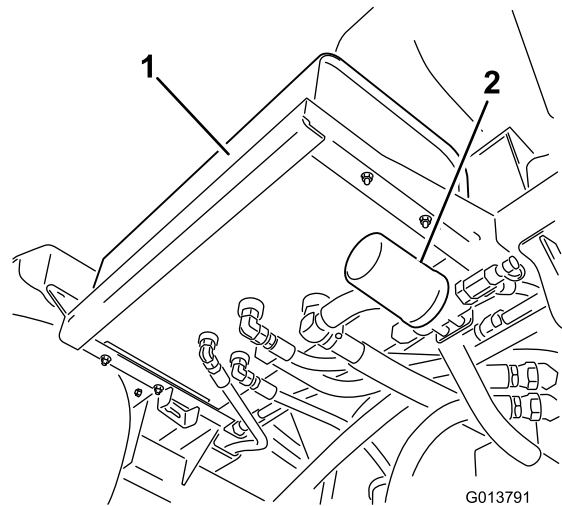
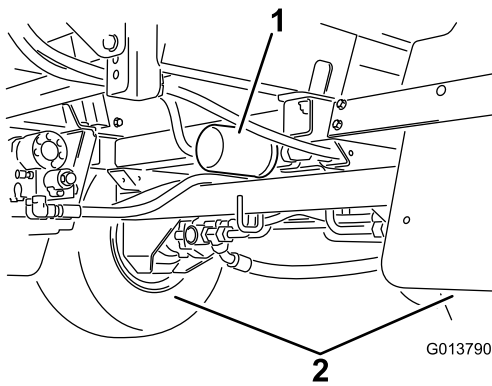

Figure 96
Figure 97
2. Locate the 2 hydraulic filters on the machine (Figure 96 and Figure 97).